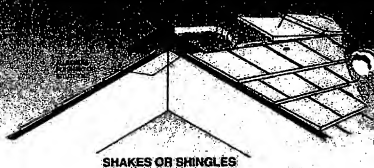

FIG. 8
- (4.) Install ridge flashing and cap with shakes or saddle boards as shown in figure 8. Note: Discard nails provided with Cor-A-Vent and use nails of sufficient length to penetrate through roof sheathing.